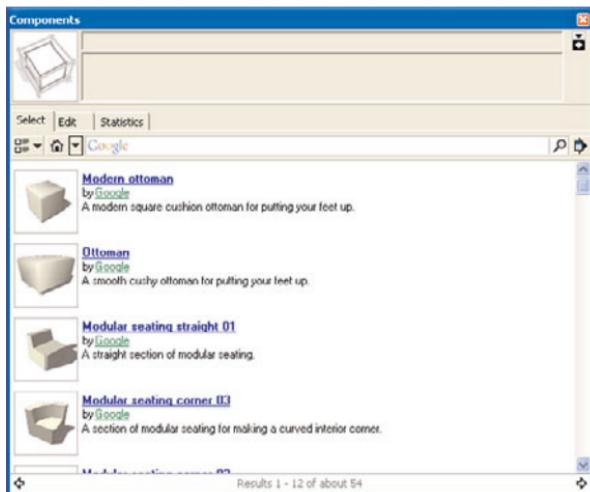

FIGURE 6.17 The Seating component collections.
6. Click the **Seating** item. This downloads the Seating collection from the 3D warehouse, as shown in Figure 6.17.